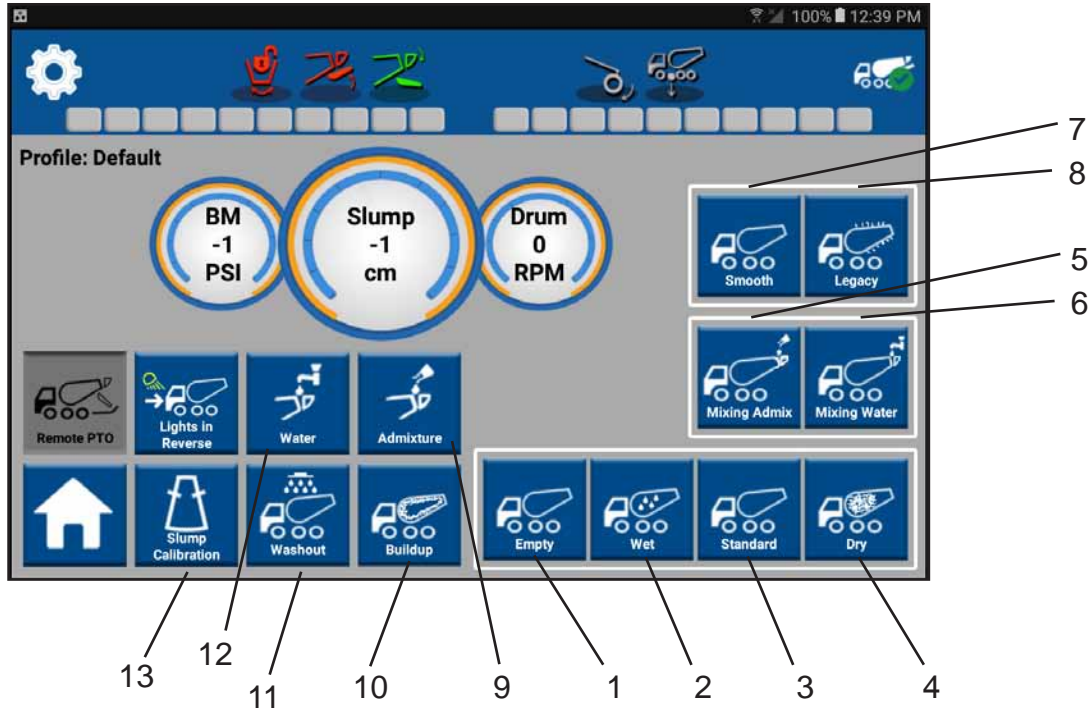

Figure 24
- Empty (Figure 24, Item 1). Spins the drum at 1 RPM in Constant Speed.
- Wet (Figure 24, Item 2). Spins drum at 5 RPM Low Constant Speed and 12 RPM High Constant Speed.
- Standard (Figure 24, Item 3). Spins drum in two configurable constant speeds (Low: 1-3 RPM; High: 3.1-7 RPM).
- Dry (Figure 24, Item 4). Spins the drum at 1.5 RPM in Constant Speed.
- Mixing Admix (Figure 24, Item 5). Throttles up the truck to mixing speed and mixes for 30 revolutions before returning to Constant Speed.
- Mixing Water (Figure 24, Item 6). Throttles up the truck to mixing speed and mixes for 70 revolutions before returning to Constant Speed.
- Smooth (Figure 24, Item 7). Allows drum to transition to new direction/velocity with dampening to minimize wear. This is the recommended operating mode.
- Legacy (Figure 24, Item 8). Allows quick transition (faster transition than “Smooth”) to new direction/velocity without dampening.
- Admixture (Figure 24, Item 9). Allows addition of prescribed amount directly into drum, and record amount added and time of addition.
- Buildup (Figure 24, Item 10). Starts a buildup test on the drum to determine if there is ~2000 lbs. of buildup. The system performs the drum test controlling the drum for approximately one minute. The system then prompts the operator: No buildup detected; Test conditions not met; Possible buildup. Test should be performed on a regular schedule for the most accurate reading. Revolution recommends once daily.
- Washout (Figure 24, Item 11). Allows selection of up to 4 washout zones. Each zones will wash for predetermined set of time.
- Water (Figure 24, Item 12). Allows addition of prescribed amount of water directly into the drum, records amount added, and time of addition.
- Slump Calibration (Figure 24, Item 13). This screen is used to load and save slump calibrations. These values are used for the inch readouts for the Slump gauges used on the Drum and Slump screens. See 11.12 Concrete Slump Meter and 11.12.2 Setting the Digital Concrete Slump Meter for FLEX Controls Only for more information.